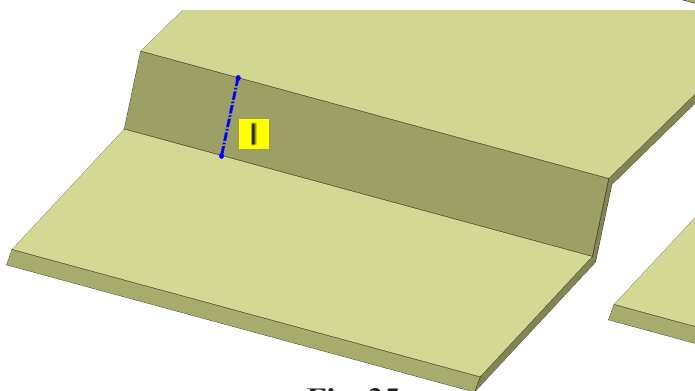

Fig. 35
Step 3. Sketch vertical centerline between the top and bottom edges of face, **Fig. 35**.